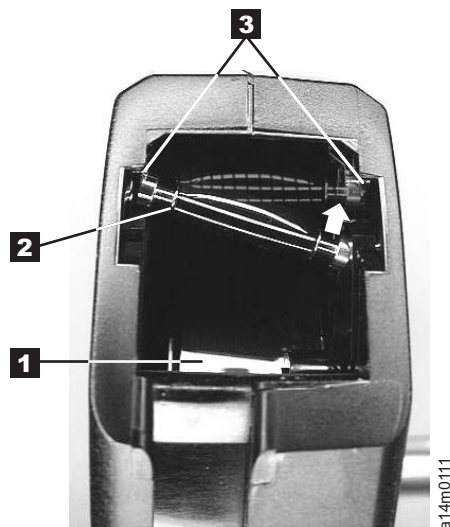

Figure 13: Placing the dislodged leader pin into the correct position. The cartridge door is open, showing the leader pin out of position.
1. Slide open the cartridge door (1 in Figure 13 on page 27) and locate the leader pin (2). You might need to shake the cartridge gently to roll the pin toward the door.
2. With plastic or blunt-end tweezers, grasp the leader pin and position it in the pin-retaining spring clips (3).